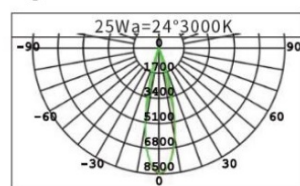

Figure 1
Step 1: Turn off the power. Before painting the ceiling, cut installation holes on the ceiling according to the opening dimension of the lighting fixtures (as shown in Figure 1);